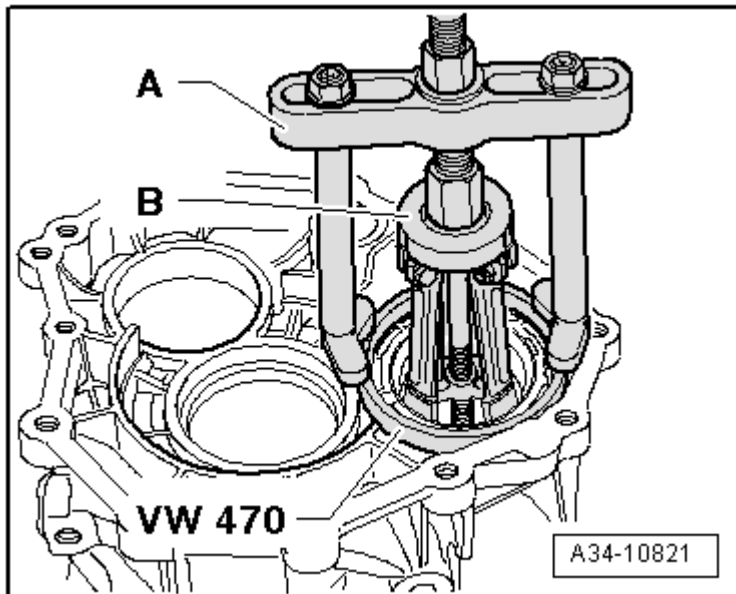

Fig. 57: Removing Needle Bearing From Transmission Cover
- Removing, refer to **Fig. 57**